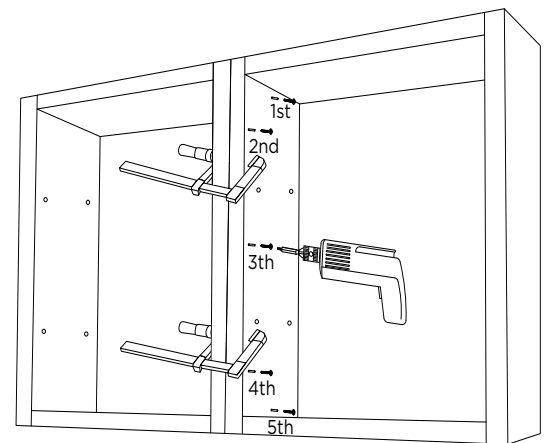

Figure 9
- Secure the cabinets into position using clamps (Figure 9). Place clamps along the front of the cabinets to maintain proper alignment and stability. Ensure end panels are clamped tightly together prior to fastening. Recommended drilling depth should not exceed 1-1/4".
- On the adjacent cabinet, drill 3 pilot holes along the front and top edges. Position these holes as seen in (Figure 9). Insert a #8 x 1-1/4" stainless steel screw into each hole and tighten securely.
- Finish by drilling and inserting screws into the top rear corner of the cabinet (Figure 9). After drilling, use a countersink bit on all holes to ensure the screw heads are flush with the material surface.